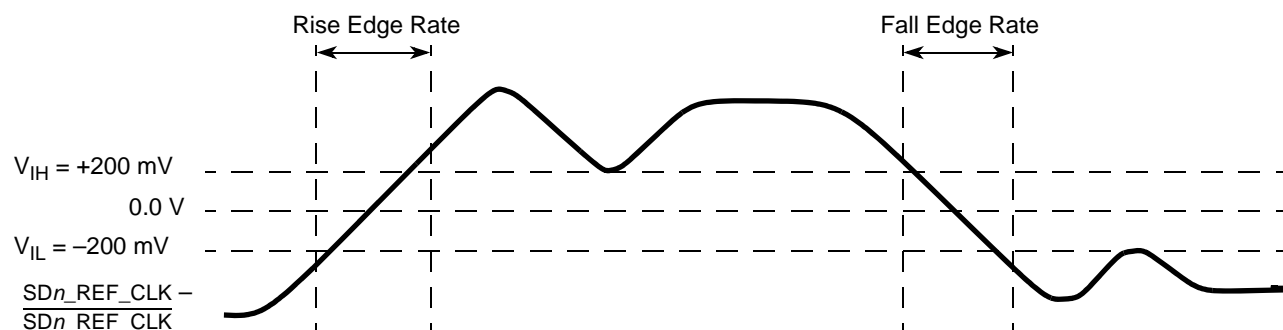

Figure 47. Differential Measurement Points for Rise and Fall Time
3. Measured from –200 mV to +200 mV on the differential waveform (derived from $\text{SD}n_{\text{REF_CLK}}$ minus $\overline{\text{SD}n_{\text{REF_CLK}}}$). The signal must be monotonic through the measurement region for rise and fall time. The 400 mV measurement window is centered on the differential zero crossing. See Figure 47.